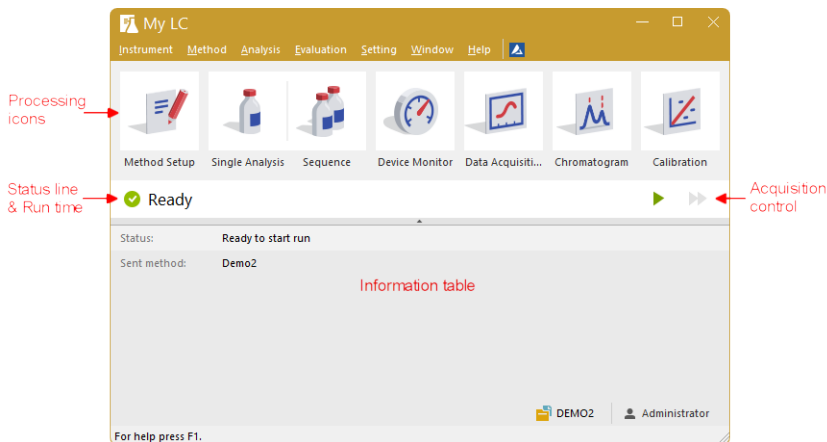

Fig. 3: Instrument window
- In the *Instrument* window, look at the *Status line* (see **Fig. 3** on pg. 10.). The acquisition is now signaled by the *RUNNING* state and the actual run time is displayed there.
- To see the data acquisition in process and possibly control it, use the *Data Acquisition*  icon (see **Fig. 3** on pg. 10.) to enter the *Data Acquisition* window.